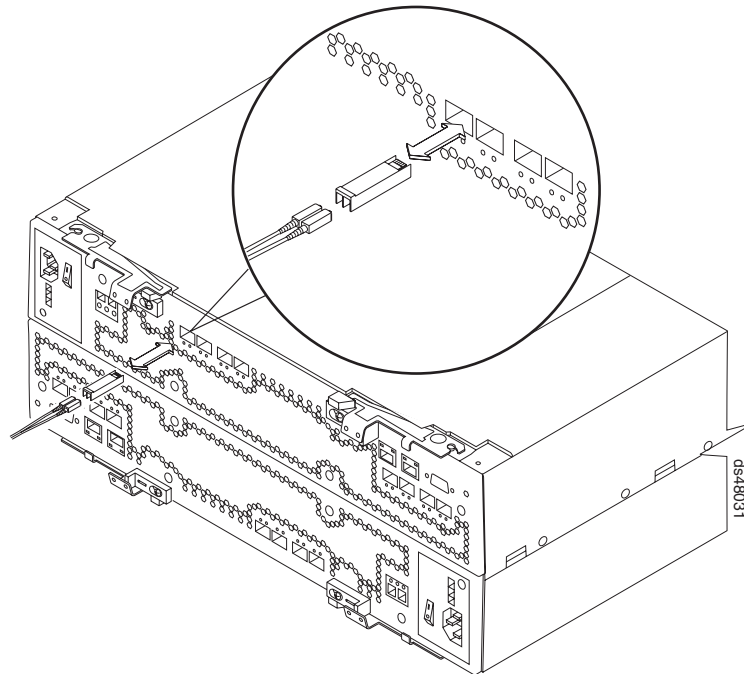

Figure 101. Replacing an SFP module
6. Disconnect the interface cable from the SFP module. (Figure 101 on page 165 shows the SFP module, interface cable, and the rear of a controller.)